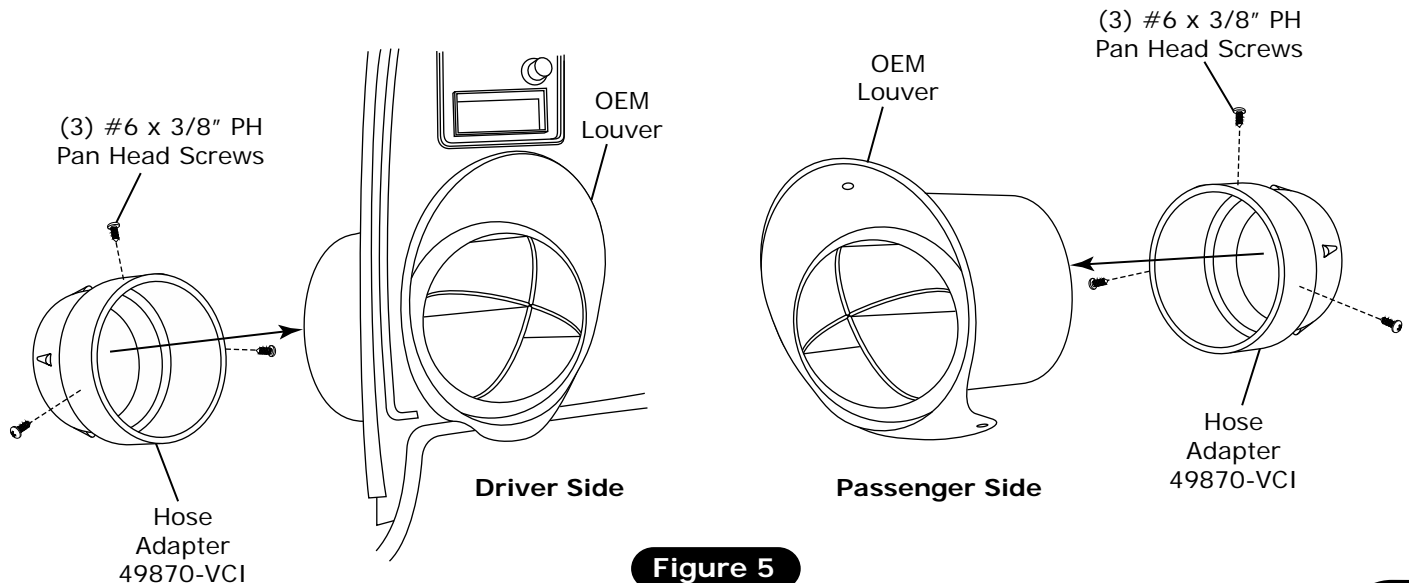

Figure 5
1. Install driver and passenger side hose adapters on OEM louvers and secure using (3) #6 x 3/8" PH pan head screws (See Figure 5, below).